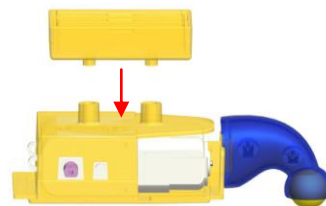

Fig. 3
2. **Install batteries into the battery box (12) according to Step 14 and put it on the gearbox, as shown in Fig. 3.**